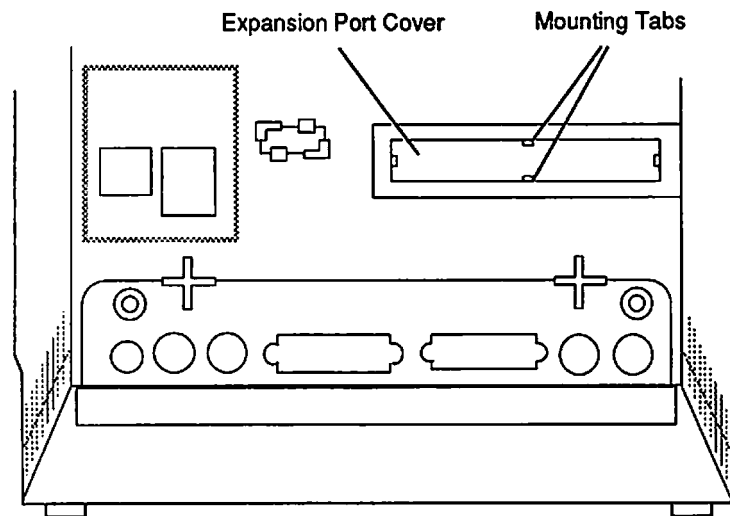

Figure 5-1 Removing the Expansion Port Cover
2. **Figure 5-1.** If you are installing the cable (and not replacing it), locate the expansion port cover on the inside of the Macintosh SE cover. Squeeze the two center mounting tabs on the expansion cover toward each other, and push out to remove it.